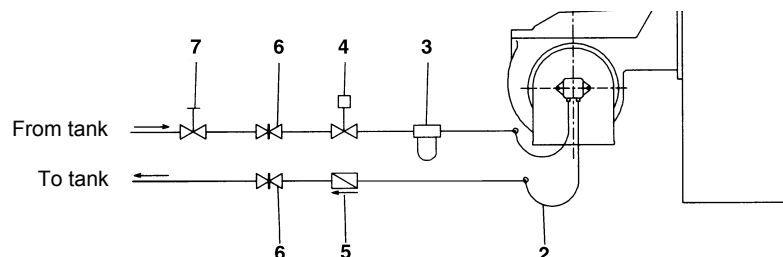

Fig. 20
**NOTE:** in plants where gravity or ring feed systems are provided, install an automatic interception device (see n. 4 - Fig. 20).